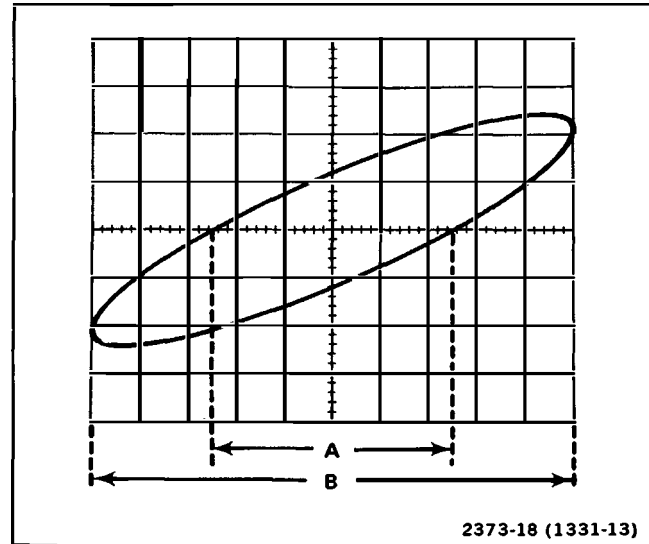

Fig. 18. Phase difference measurement from an X-Y display.
3. Position display to center of crt screen and adjust Channel 1 and Channel 2 VOLTS/DIV switches to produce a display less than six divisions vertically (Y) and less than 10 divisions horizontally (X). The Channel 1 VOLTS/DIV switch controls horizontal deflection (X) and Channel 2 VOLTS/DIV switch controls vertical deflection (Y).
4. Center display in relation to center graticule lines. Measure distance A and B as shown in Fig. 18. Distance A is horizontal measurement between two points where trace crosses center horizontal line. Distance B is maximum horizontal width of display.
EXAMPLE: To measure phase of display shown in Fig. 18 where A is 5 divisions and B is 10 divisions, use the formula: